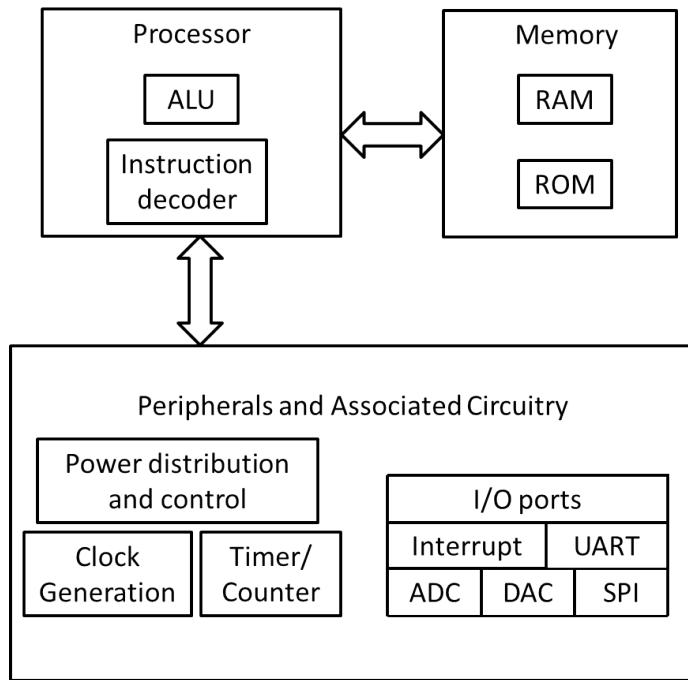

Figure 2.1: Functional block diagram of a microcontroller
**Memory and Peripherals.** The basic block diagram of a microcontroller is shown in Fig. 2.1. We shall briefly review the functionality of each block.